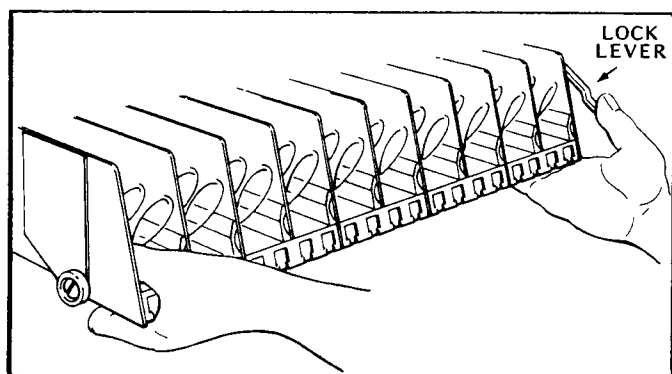

Figure 1. MOVING SHELF TO LOADING POSITION.
4. **LOADING SNACK SHELVES:** Open door to full open position, push down on white plastic lock lever (Figure 1) on right side panel by shelf to unlock shelf, holding lever down. Grasp the shelf slightly and pull forward until shelf reaches its stop. The shelves tilt down (do not drop) to make loading easier. Only one product shelf should be in the loading position at a time. When returning a shelf, be sure the shelf is in its full home or vend position. Begin loading with the top shelf. Move it to the loading position. The height spacing for items is greatest in this shelf and the tallest bagged items should be placed there. Soft items, such as pastry, pies, etc., should be placed in the lowest snack shelf, making the drop distance as short as possible.